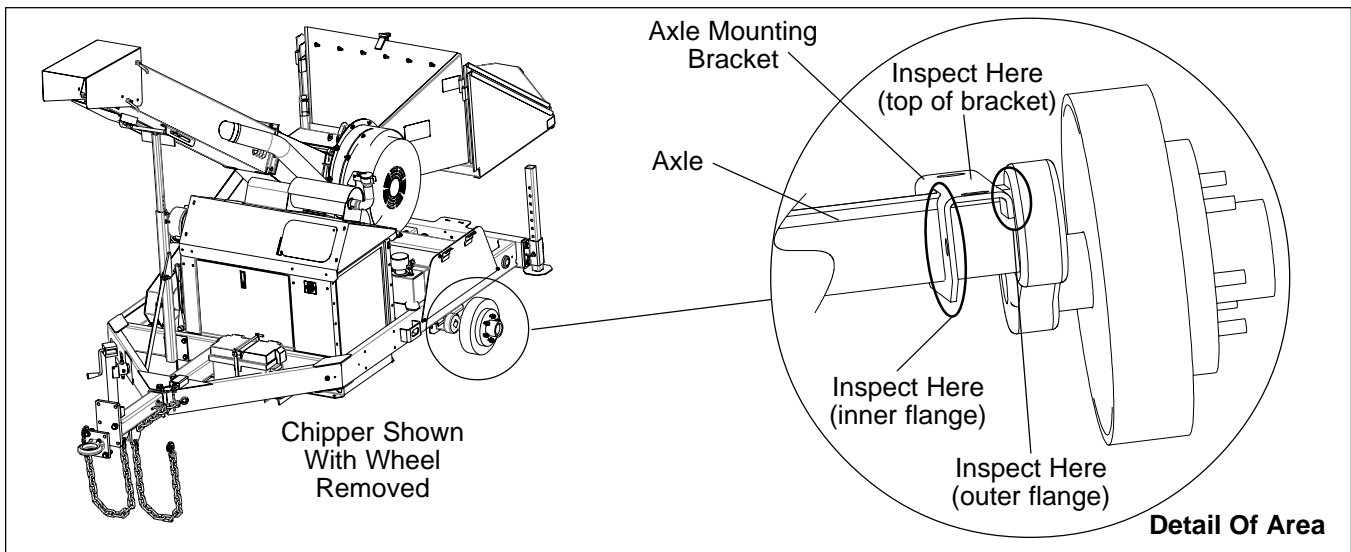

Figure 3 — Axle Mounting Inspection Area
3. Inspect each axle mounting bracket for any cracks on where the bracket mounts to the axle (refer to Figure 3). Look for any deformation in the mounting bracket (bent ears, top of bracket bent, etc.)
- the crack in the axle mounting is only in the smaller (outer) flange of the mounting and no longer than 1½ inches (refer to Figure 3).